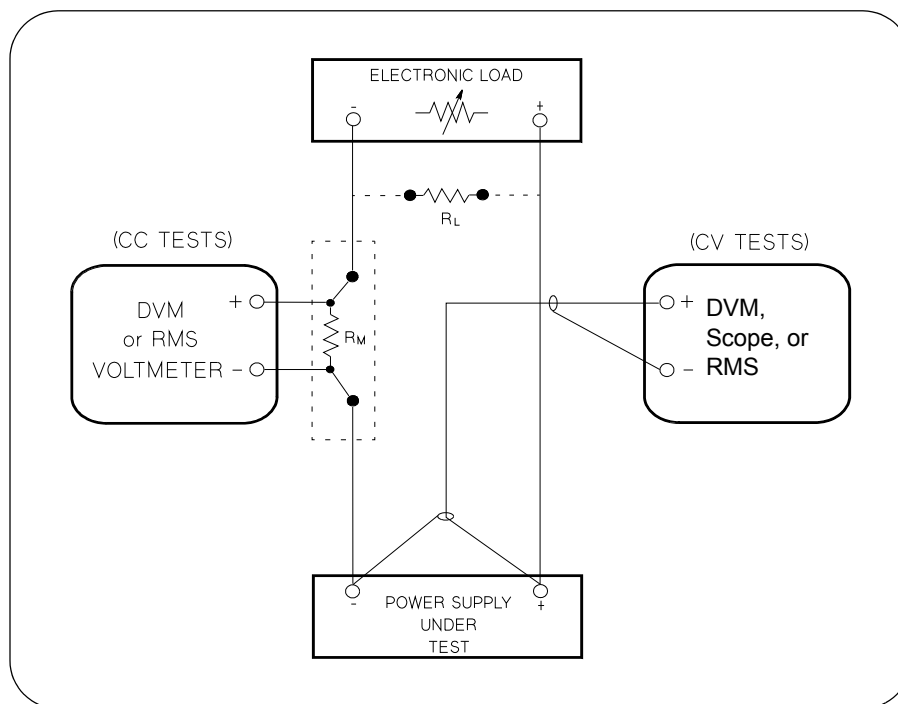

Figure A-1 Performance Verification Test Setup
Most tests are performed at the front terminals as shown in Figure A-1. Measure the dc voltage directly at the (+) and (-) terminals on the front panel.
To eliminate output current measurement error caused by the voltage drops in the leads and connections, connect the current monitoring resistor between the (-) output terminal and the load as a four-terminal device. Connect the current-monitoring leads inside the load-lead connections directly at the monitoring points on the resistor element (see R_M in Figure A-1).
- 1 Turn off the power supply and connect a digital voltmeter between the (+) and (-) terminals of the output to be tested as shown in Figure A-1.
- 1 Turn off the power supply and connect a digital voltmeter between the (+) and (-) terminals of the output as shown in Figure A-1.
- 4 Operate the electronic load in open mode (input off). Record the output voltage reading on the digital voltmeter immediately. The difference between the digital voltmeter readings in steps (3) and (4) is the CV load regulation. The difference of the readings during the immediate change should be within the limit of (5 mV)* or (9 mV)**.
- 6 Adjust the transformer to high line voltage (127 Vac for nominal 115 Vac, 110 Vac for nominal 100 Vac, or 253 Vac for nominal 230 Vac). Record the voltage reading on the digital voltmeter immediately. The difference between the digital voltmeter readings in steps (5) and (6) is the CV line regulation. The difference of the readings during the immediate change should be within the limit of (5 mV)* or (9 mV)**.
- 1 Turn off the power supply and connect the output to be tested as shown in Figure A-1 to an oscilloscope (ac coupled) between (+) and (-) terminals. Set the oscilloscope to AC mode and bandwidth limit to 20 MHz. Connect a resistive load ($13.5\ \Omega$)[†] to the terminal at (B) as shown above.
- 1 Turn off the power supply and connect the output to be tested as shown in Figure A-1 with an oscilloscope. Operate the electronic load in constant current mode.
- 1 Turn off the power supply and connect a 0.01 Ω current monitoring resistor (R_{M1}) across the output to be tested and a digital voltmeter across the current monitoring resistor (R_{M1}) as shown in Figure A-1.